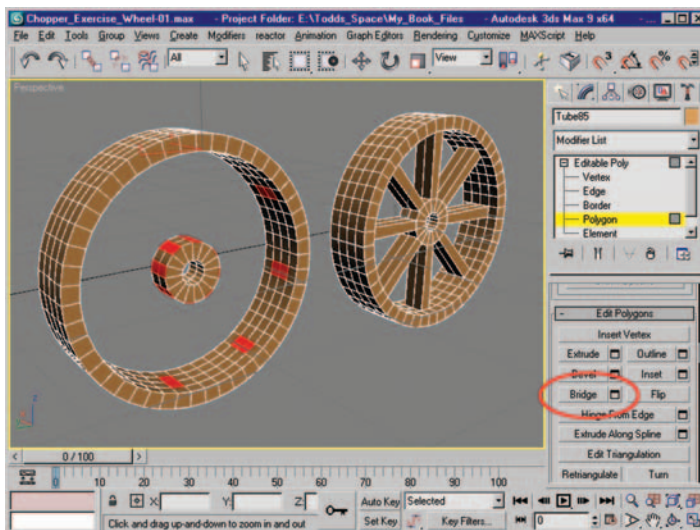

Figure 8.100 Polygon selection before and after using Bridge with the default settings.
9. At the Polygon subobject level, select the polygons seen in Figure 8.100 (left). Use Bridge with the default settings to create spokes that span from the outer tube to the inner tube as seen in Figure 8.100 (right). *Note: When selecting the polygons on the inner tube mesh, alternate every other pair of polygons. On the outer tube mesh select two polygons, then skip five rows and select two more polygons. Repeat the process until you have 32 polygons total, 16 on the outside, 16 on the inside. Make a conscious effort to have the inner polygons and outer polygons line up with each other. At first it may be easier to create one spoke at a time.*